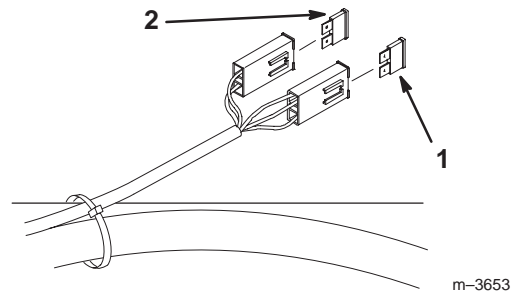

Figure 64
1. Unlatch the seat and raise the seat to gain access to fuse holder (Fig. 64).
3. Install a new fuse (Fig. 64).